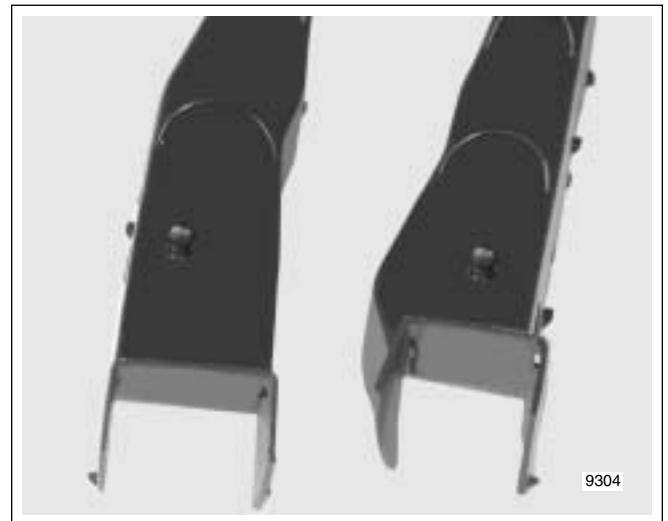

Figure 8-154. Rear Leg Index Pins
4. Gently push index pins on rear legs of wire trough into holes in frame backbone. See Figure 8-154.